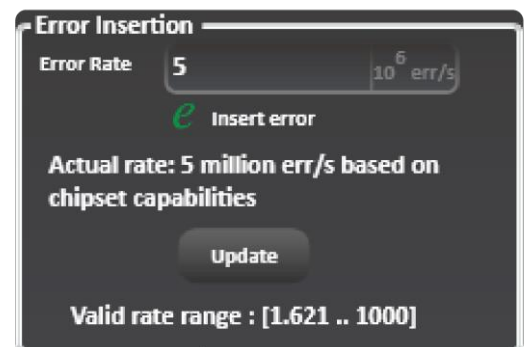

Figure 18: Error insertion in optimal mode
- **Specify Error insertion rate.** The actual rate of errors per second depends on architecture capabilities (Figure 18).